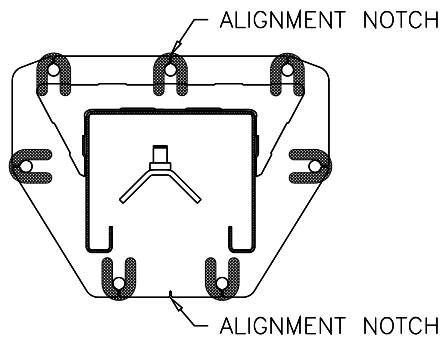

Fig 3 – Column Shimming
- 10) Shim both columns to plumb using the shims provided as shown in **Fig 3**. DO NOT shim more than 1/2" at any given point. Use a level no less than 24" in length to plumb columns.
- 14) Check idler column shimming. Use additional shims (**see Fig. 3**) to remove any gaps that may have been created while installing overhead beam. Tighten anchor bolts and recheck column for plumb. Torque to 150 foot pounds.